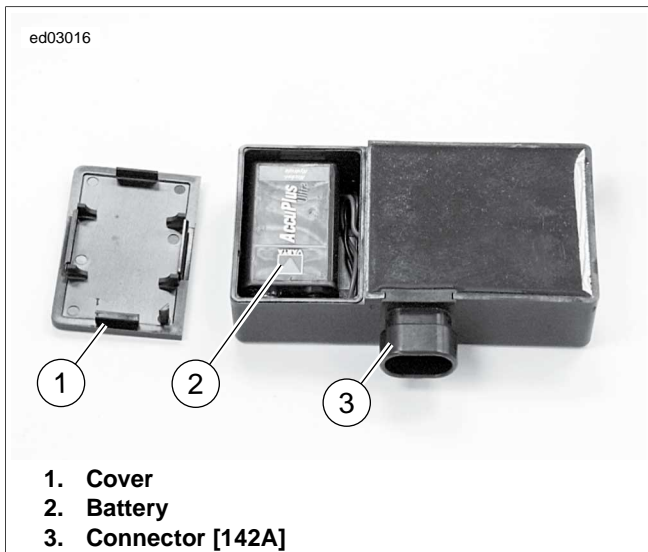
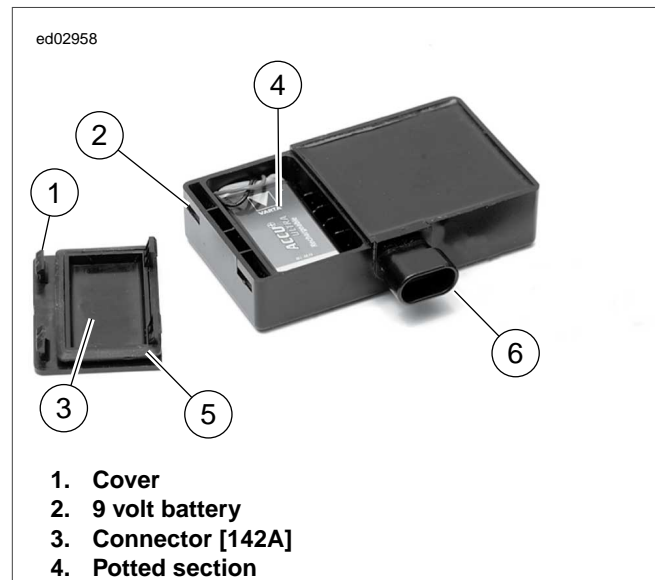

Figure E-34. Siren Battery Compartment (Early Style Siren)
Figure E-35. Siren Battery Compartment (Late Style Siren)
- See Figure E-34 and Figure E-35. Early style siren will work with both TSM and HFSM. Late style siren will only work with HFSM.
2. See Figure E-34 or Figure E-35. Remove battery cover (1).
3. See Figure E-34 or Figure E-35. Replace battery by removing old battery from polarized battery clip. Install a **new** 9 volt nickel metal hydride battery. See the Parts Catalog for correct part number.
4. See Figure E-34 or Figure E-35. Reinstall battery cover (1).
- b. Align battery cover (1) with case placing round corners on cover away from connector [142A]. Snap cover into place.
2. See Figure E-34 or Figure E-35. With a small screwdriver or pick, push the catches (1) in through the two slots (2) in the end of the siren to release the battery cover (3).